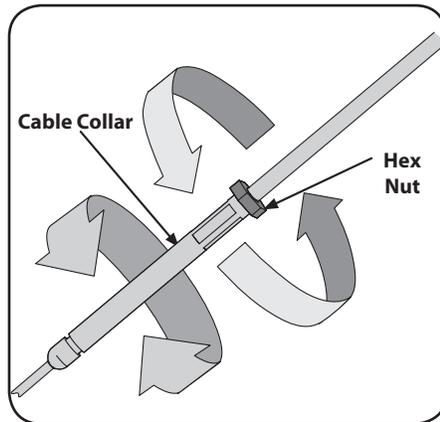

Figure 3-9
2. Adjust the forward clutch cable by loosening the hex nut. See Figure 3-9.
3. Turn the cable collar section one or two turns to increase or decrease tension on the cable. See Figure 3-9.
4. Retighten the hex nut against the cable collar. See Figure 3-9.